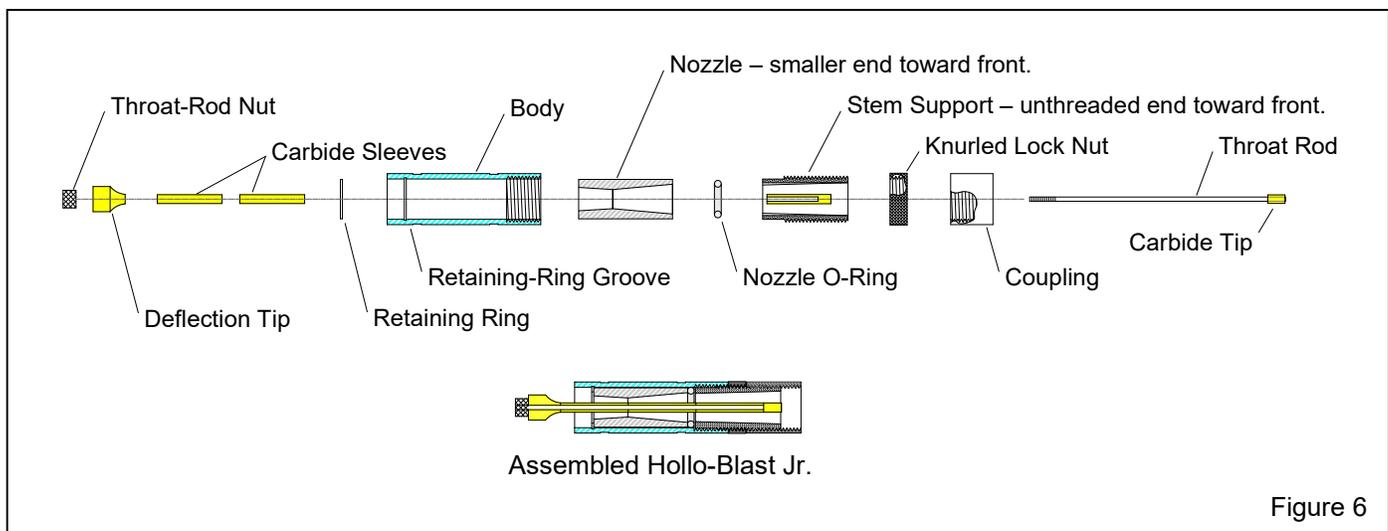

Figure 6
5.1 Preventive Maintenance – Figure 6
5.2 Disassemble and Inspection – Figure 6
5.3 Reassembly – Figure 6